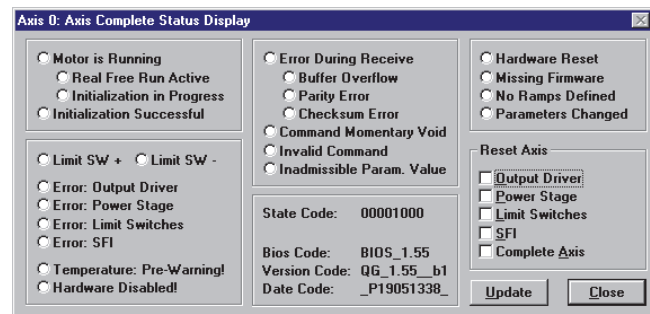

Fig. 11 Status window
- Errors, program version and other information are indicated in *Status* window, Fig. 11.